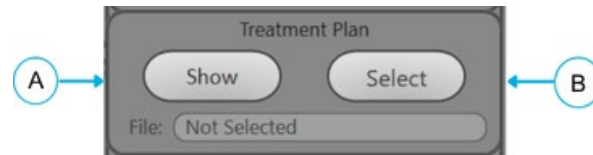

Figure 7-24: Treatment Plan Menu
2. Locate the Treatment Plan menu on the displayed Settings screen (see **Figure 7-24**).